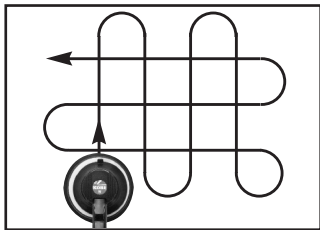

Fig. 2
1. Once your air sander is assembled with the backing pad and sanding disc, connect the air supply (See Page 3) and press the trigger (C) to use. To avoid unwanted swirl marks, place the air sander on the material and then switch it on.
3. The speed of the air sander can be adjusted by moving the thumb control on top of the sander (D). Move the control right to increase the speed and left to reduce the speed.
4. To get an even finish, move the air sander up and down and then change the direction from left to right (See Fig. 2).